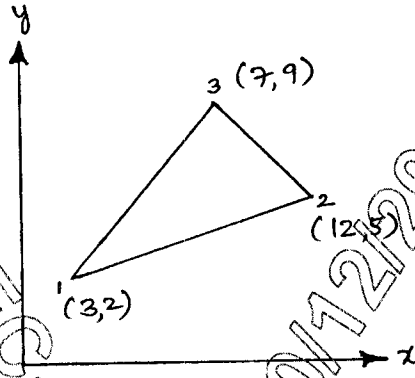

Fig.Q4(c)
c. Determine the Jacobian matrix and area for the triangular element shown in Fig.Q4(c). (06 Marks)